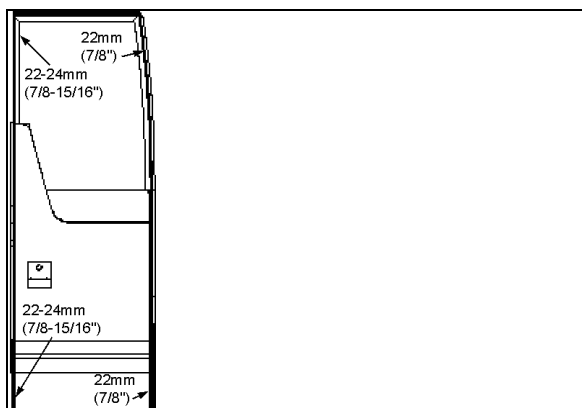

FIGURE 29: SEAL COMPRESSION ADJUSTMENT
- From the outside of vehicle, insert a straight edge in the gap along the door outside perimeter. Measure the distance between the door frame and the door outside surface at the door four corners (refer to Figure 29).